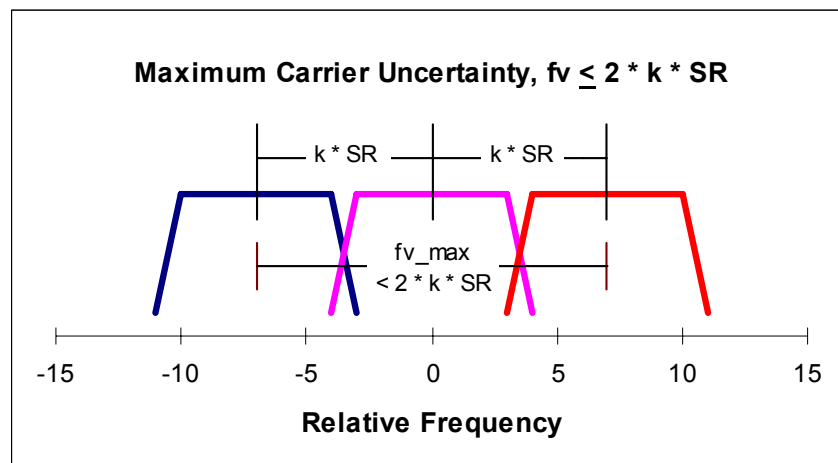

Figure A-1. Maximum Carrier Uncertainty, fv , expressed in terms of Symbol Rate, SR
The factor of 2 appears because the uncertainty is $\pm fv$. The maximum carrier uncertainty is illustrated in Figure A-1 where the ideal position of the carrier is shown in the center, and its location due to uncertainty is displaced to extreme positions of $+fv$ and $-fv$ relative to the ideal. Because the goal is to establish the minimum symbol rate for a given frequency uncertainty fv is expressed in terms of symbol rate (SR) and Carrier Spacing Factor (k).